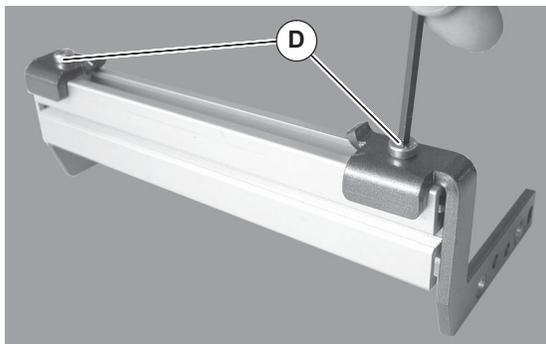
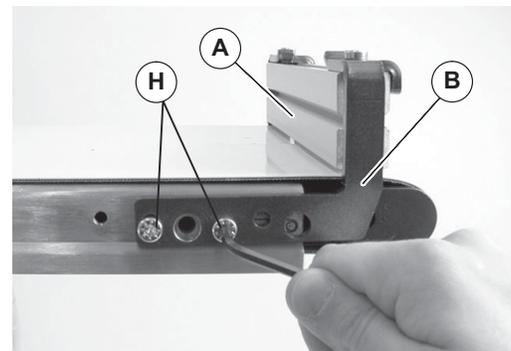

Figure 6
Figure 8
- Loosen screws (Figure 6, item D) on both sides of end stop assembly.
- Place the remainder of the end stop (Figure 8, item A and B) on end of conveyor and attach with head plate screws (H) tighten to 57 in-lbs (6.4 N-m).
- Center the end stop (Figure 8, item A) on the conveyor and tighten screws (Figure 6, item D) to 57 in-lbs (6.4 N-m).